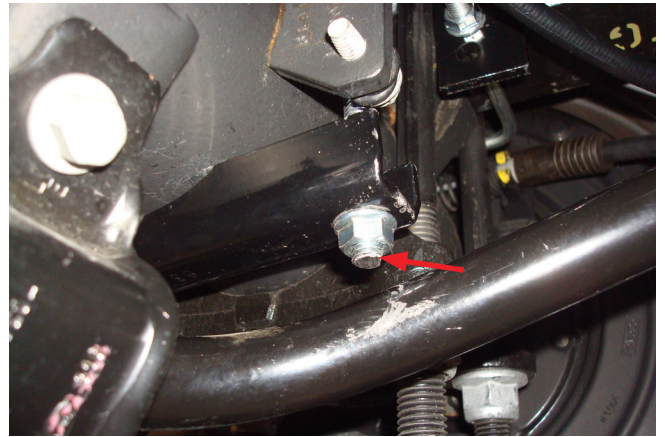

Fig. 32
10. On vehicles that have a sway bar, it will be necessary to cut the front carriage bolt just below the nut, so it does not contact the sway bar (Fig. 32).